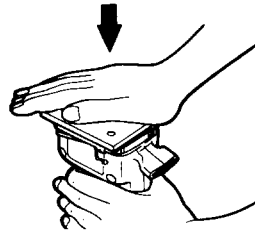

Fig. 12
- (2) Surely attach the sanding paper (Velcro type) by strongly and evenly pressing with your palm. (Fig. 12)